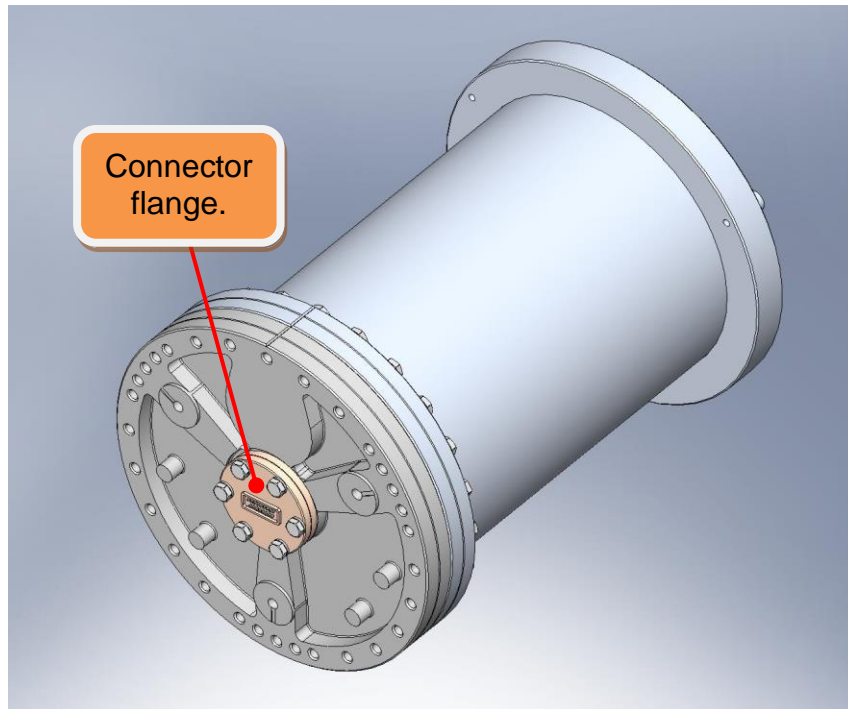
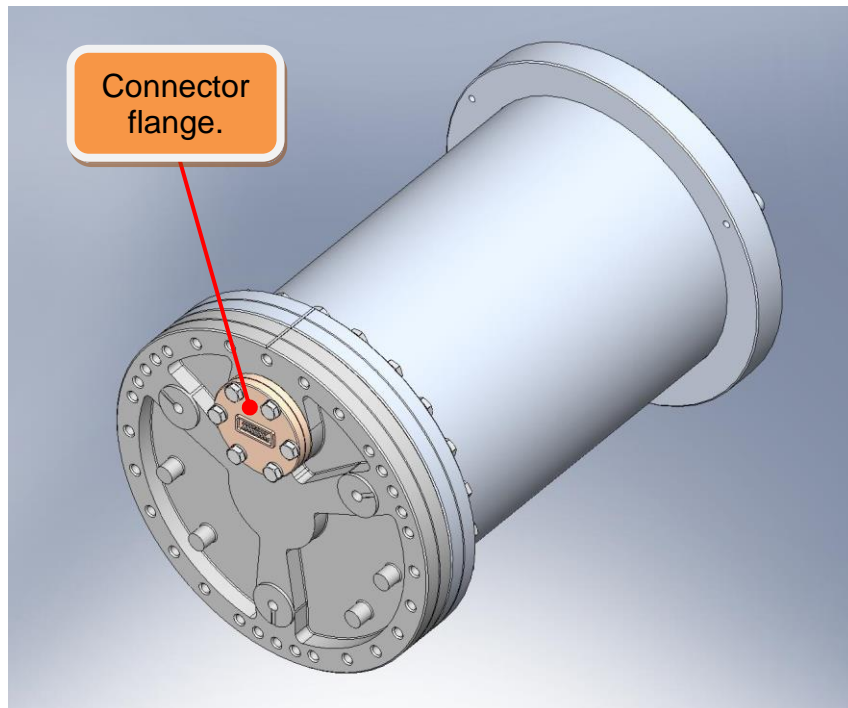

Figure 4.47. GS-13 Pod, Horizontal configuration. Note *centered* location of connector flange.
Figure 4.48. GS-13 Pod, Vertical configuration. Note *offset* location of connector flange.
- Set aside all (6) **Position Sensor Assemblies** for later installation. **Sensor must be protected from accidental damage!**
4.25 Prep Work – Finish (6) GS-13 Assemblies (D071470)
- Follow instructions given in separate document for assembly of (6) **GS-13 Seismometer Pods** (D047810). Of these **Pods**, (3) should be in the Horizontal configuration (shown in Figure 4.47) and (3) should be in the Vertical configuration (shown in Figure 4.48).